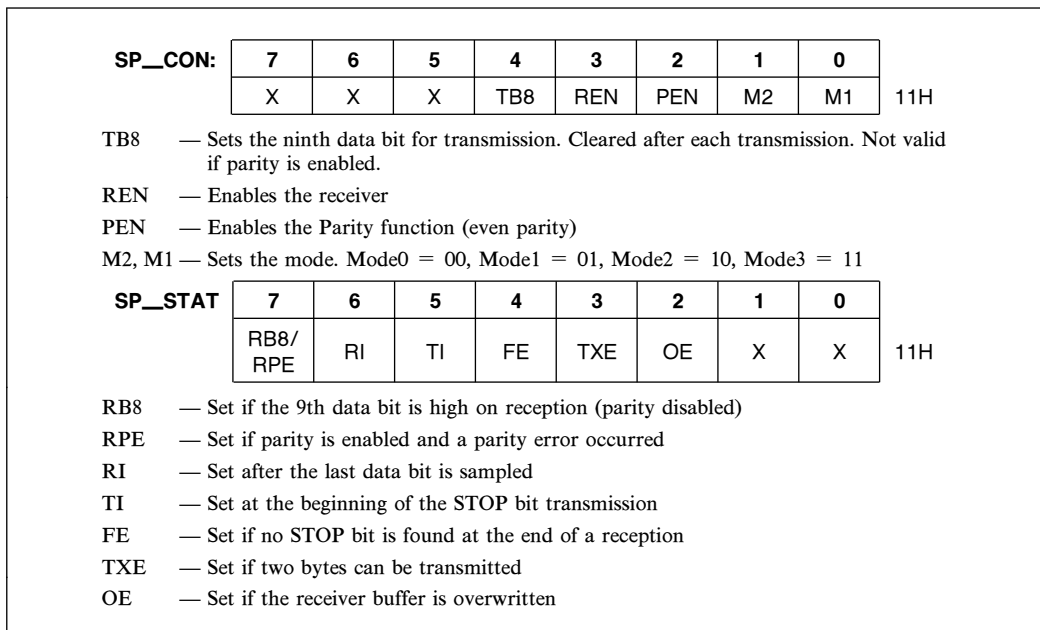

Figure 10-1. Serial Port Control and Status Registers
Control of the serial port is done through the Serial Port Control (SP_CON) register shown in Figure 10-1. Writing to location 11H accesses SP_CON while
reading it accesses SP_STAT. The upper 3 bits of SP_CON must be written as 0s for future compatibility. On the 80C196KB the SP_STAT register contains new bits to indicate receive Overrun Error (OE), Framing Error (FE), and Transmitter Empty (TXE). The bits which were also present on the 8096BH are the Transmit Interrupt (TI) bit, the Receive Interrupt (RI) bit, and the Received Bit 8 (RB8) or Receive Parity Error (RPE) bit. SP_STAT is read-only in Window 0 and is shown in Figure 10-1.